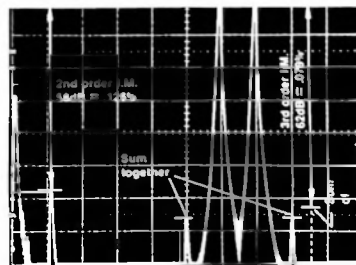

Fig. 60. Measurement Using the CCIF Standard
- Intermodulation distortion using the CCIF method is performed by noting the dB down of the generated 1 kHz sidebands as shown in figure 60, then converting to percentage. The single carrier at 1 kHz is the 2nd order difference beat and the sidebands centered around the 6 and 7 kHz tones are the 3rd order components.